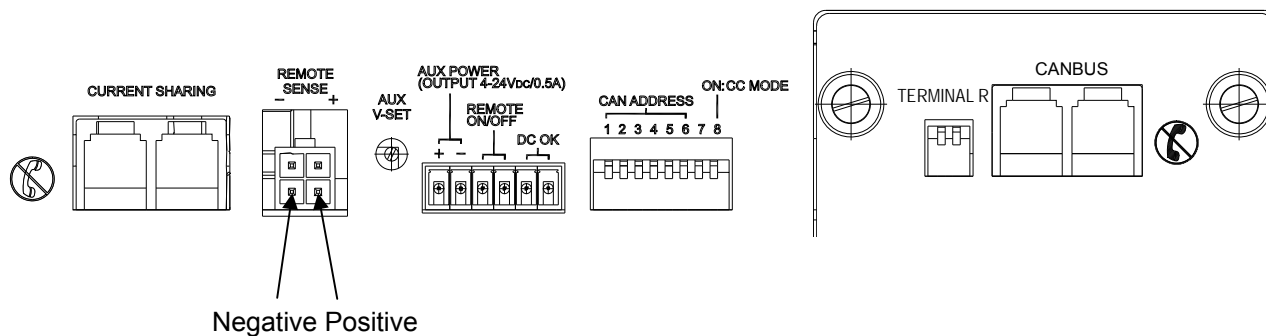

Figure 3-2
- b. Turn the external switch to ON. (Use Open/ Short SW to activate Remote ON/OFF as Figure 3-2 shows.)
- a. Turn the external switch to OFF----- see Figure 3-2.
2. Figure 3-2 shows the connection of Remote Sensing. Using two cables to connect the load positive/negative connector and the Remote Sensing Connector on the rear panel. The cable diameter has to be larger than 30AWG and the withstand voltage should be within specification.
As Figure 3-2 shows the polarity of Remote Sensing Wire must be connected correctly, that is the “+” terminal should connect to the “+” of output terminal or its extended cable, and so is for “-” terminal.